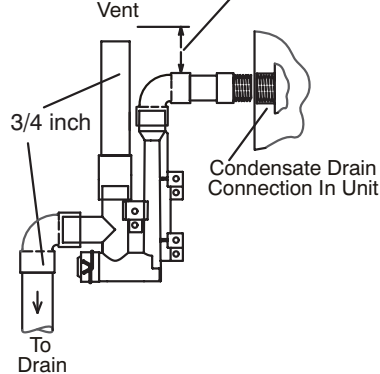

FIGURE 50
- 3 - Install the cap over the clean out opening at the base of the trap. Secure with clamp. See FIGURE 50.
- 4 - Install drain trap using appropriate PVC fittings, glue all joints. Glue the provided drain trap as shown in FIGURE 50. Route the condensate line to an open drain.